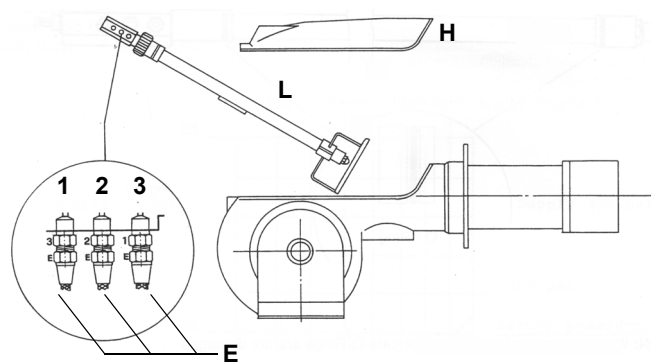
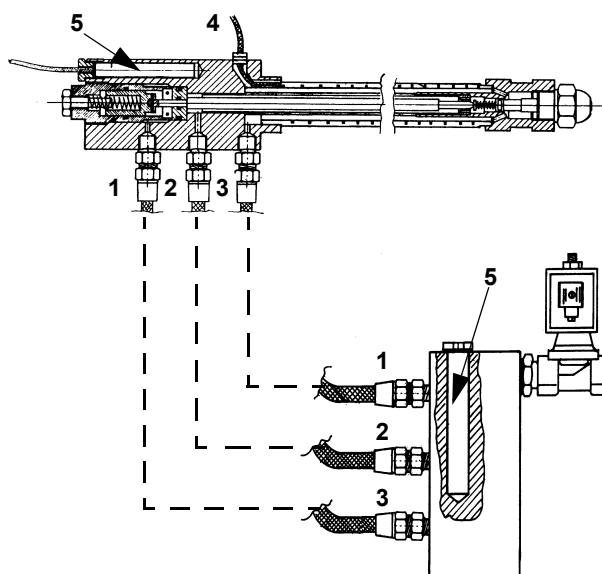

Fig. 20
Fig. 21
- Unscrew the oil connections E (Fig. 20) connecting the flexible pipes to the lance L and remove the whole assembly as shown in Fig. 20-Fig. 21.